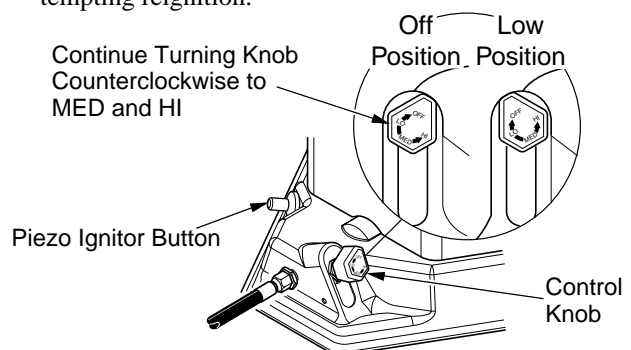

Figure 4 - Control Knob, and Piezo Ignitor Button Locations
5. Slightly depress and turn control knob counterclockwise to the low position (see Figure 4).
- When burner remains lit, set heater at the desired heat level by slightly depressing the control knob and turning it counterclockwise to the Medium or High settings (see Figure 4, page 4).